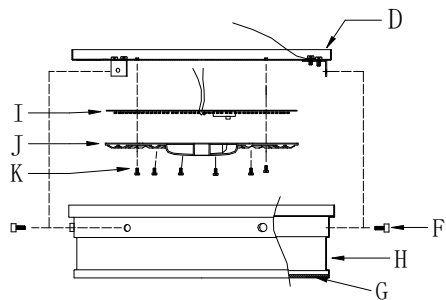

Fig. 3
CONNECTING THE WIRES (Fig. 3)
5. Connect electrical wires as shown in Fig.3, making sure that all wire connectors are secured. If your junction box has a ground wire (green or bare copper), connect the fixture's ground wire to it. Otherwise, connect the ground wire directly to the mounting plate (A) using the green screw (C) provided.